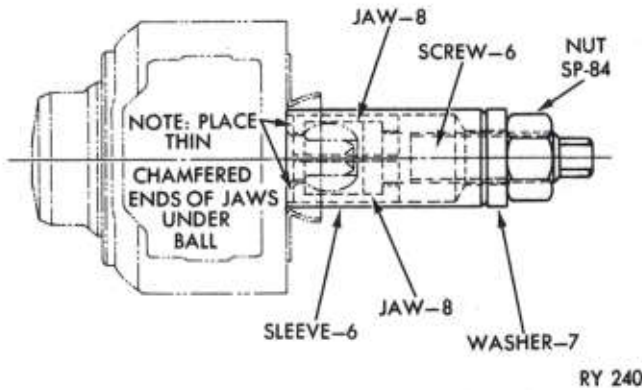

Fig. 18—Removing Centering Ball (Tool C-4365)
(3) Pry seal from ball cavity; remove washers, spring and three ball seats.
(4) Clean and inspect the centering ball surface, seal, ball seats, spring and washer. If parts are worn or broken, replacement is recommended.
(5) Remove centering ball using components of Tool C-4365; C-4365-5 screw, C-4365-6 sleeve, C-4365-7 washer, C-4365-7 nut, and C-4365-8 jaws.
(6) Draw the ball off the ball stud (Fig. 18).